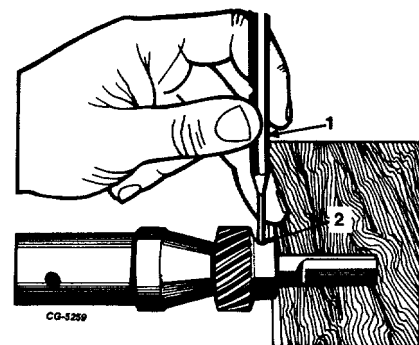

Fig. 18 Removing Distributor Driven Gear Pin
6. Support distributor shaft on a wood block or in a vise equipped with soft jaw shields and drive roll pin from gear or thrust collar and distributor shaft using a punch and hammer (Figure 18).